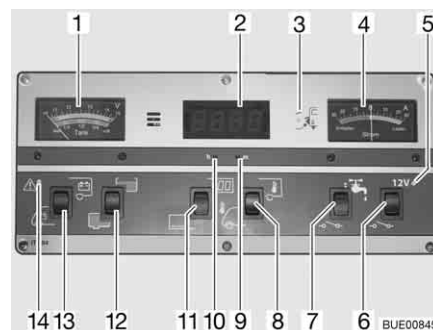

Fig. 152 Panel IT 994
With the V/tank gauge (Fig. 152,1), note the top scale. The gauge automatically lights up as soon as a switch is pressed.
- Press the lower part of the rocker switch (Fig. 152,13): The battery voltage of the starter battery is displayed.
- Press the upper part of the rocker switch (Fig. 152,13): The battery voltage of the living area battery is displayed.
The V/tank gauge is for the indication of the quantity of water or waste water. With the V/tank gauge (Fig. 152,1), use the bottom scale. The gauge automatically lights up as soon as a switch is pressed.
- Press the upper part of the rocker switch (Fig. 152,12): The volume of water is displayed.
- Press the lower part of the rocker switch (Fig. 152,12): The volume of waste water is displayed.
The red ALARM warning light (Fig. 152,14) flashes as soon as the voltage of the living area battery falls below 11 V (measured under operation) and there is a risk of a total discharge.
- Press the upper part of the rocker switch (Fig. 152,11): Digital clock display is switched on. Temperature display is ready to operate.
- Press the lower part of the rocker switch (Fig. 152,11): Digital clock display and temperature display are switched off.
- Press a thin device, such as a biro, into the opening for the hour display (Fig. 152,10) until the correct hours are displayed.
- Press a thin device, such as a biro, into the opening for the minute display (Fig. 152,9) until the correct minutes are displayed.
- Press the upper part of the rocker switch (Fig. 152,8): The internal temperature is displayed.
- Press the lower part of the rocker switch (Fig. 152,8): The external temperature is displayed.
The battery current actually flowing is permanently displayed on the current gauge (Fig. 152,4). The gauge automatically lights up as soon as a switch is pressed.
The 12 V main switch (Fig. 152,6) switches the panel and the 12 V power supply of the living area on and off.
Switching on: ■ Press the upper part of the rocker switch (Fig. 152,6): The 12 V living area power supply is switched on. The indicator lamp (Fig. 152,5) lights up green.
Switching off: ■ Press the lower part of the rocker switch (Fig. 152,6): The 12 V living area power supply is switched off. The indicator lamp (Fig. 152,5) goes out.
The 12 V indicator lamp (Fig. 152,5) illuminates whenever the 12 V main switch (Fig. 152,6) is switched on.
The yellow 230 V indicator lamp (Fig. 152,3) illuminates whenever line voltage is available at the transformer/rectifier input.
Switching on: ■ Press the upper part of the rocker switch (Fig. 152,7): The water supply is ON.
Switching off: ■ Press the lower part of the rocker switch (Fig. 152,7): The water supply is OFF.